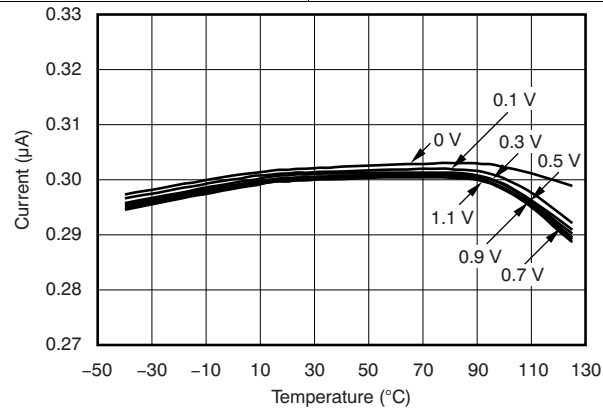

Figure 28. TPS386040 CT1 to CT4 Pin Charging Current vs Temperature Over CT Pin Voltage
- (1) Toggling WDI for a period less than t_{WDT} negatively affects I_{DD} .
- (2) These specifications are beyond the recommended V_{DD} range, and only define $\overline{\text{RESETn}}$ or RESETn output performance during V_{DD} ramp up.
- (3) The lowest supply voltage (V_{DD}) at which $\overline{\text{RESETn}}$ or RESETn becomes active; $t_{\text{RISE}(V_{DD})} \geq 15\text{ }\mu\text{s/V}$.
- (4) CTn (where $n = 1, 2, 3$, or 4) are constant current charging sources working from a range of 0 V to $V_{\text{TH(CTn)}}$, and the device is tested at $V_{CTn} = 0.5\text{ V}$. For I_{CT} performance between 0 V and $V_{\text{TH(CTn)}}$, see Figure 28.